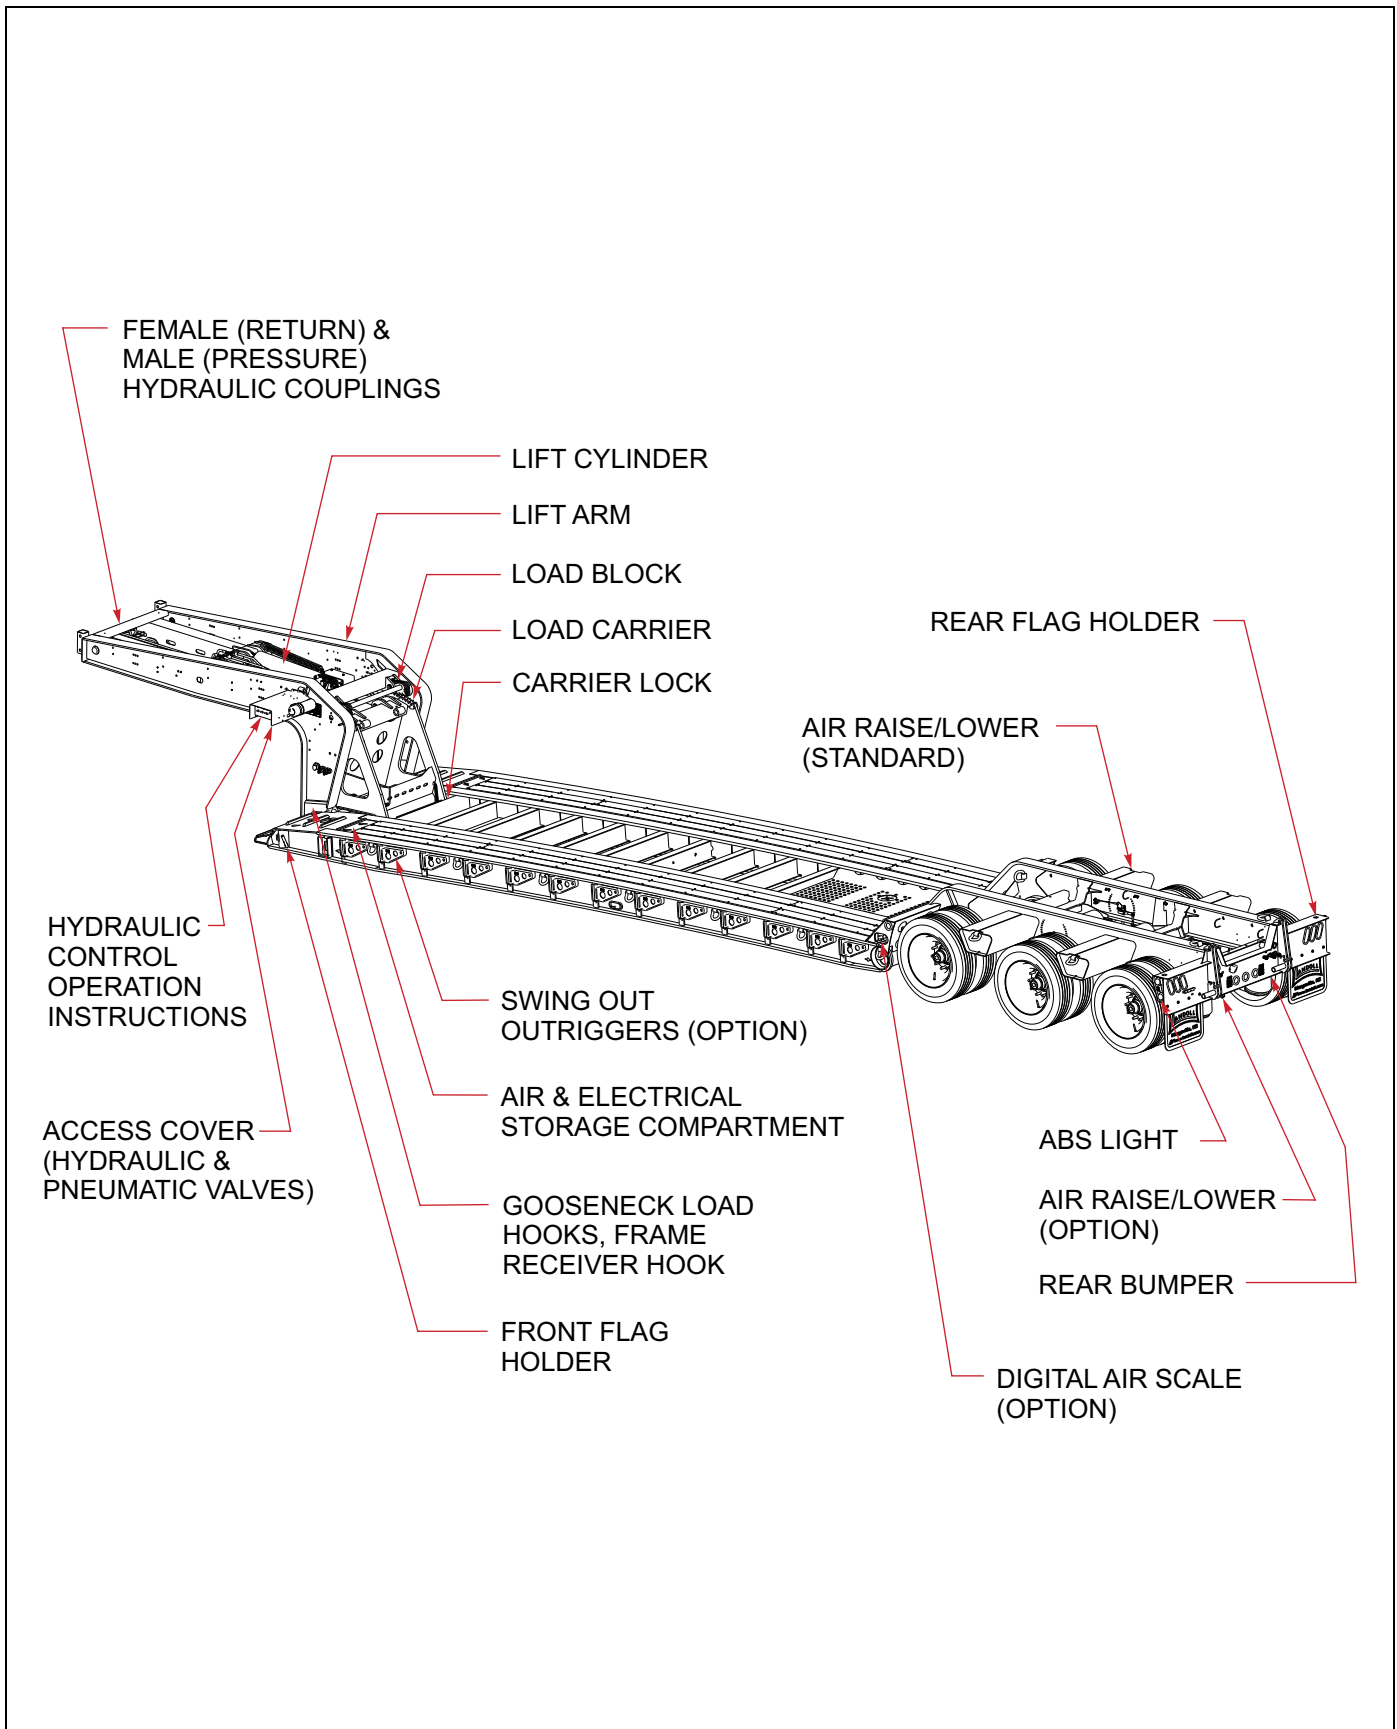

Figure 3-1: Trailer Terminology
This section supplies information for operation of the semitrailer. It describes and locates controls and gives general operation procedures. Read all instructions, warnings, cautions, and danger notes before attempting to operate the semitrailer. Operators must have proper training before operating the semitrailer. (See Figure 3-1 for location of semitrailer parts.)
3. Before moving the trailer, activate the **TRAILER LIFT lever** “DOWN” until the semitrailer load carrier rests completely on the load blocks (See Figure 3-1 and See Table 3-1.)
The **TRAILER LIFT lever** is located on the driver’s side of the gooseneck assembly (**See Figures 3-1 and 3-3.**) It is the middle lever and has three positions: